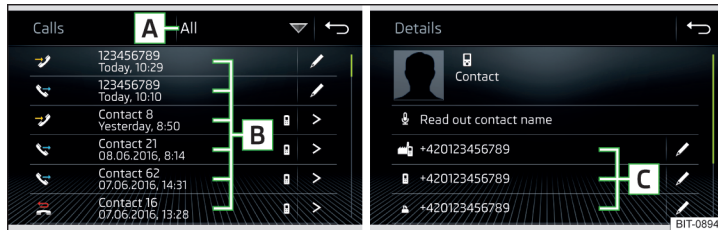

Fig. 210 Call history / Contact details
› In the *Telephone* main menu, tap on the function surface and a call list will be displayed » Fig. 210.
- ▶ Display the contact details » Fig. 210